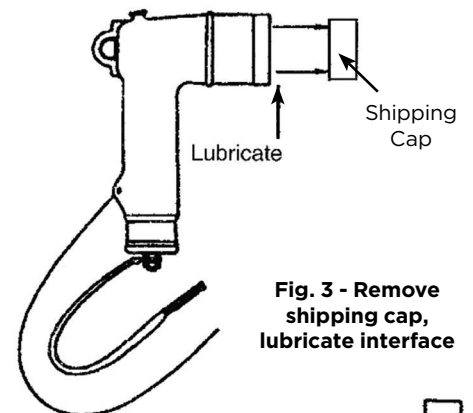

Fig. 3 - Remove shipping cap, lubricate interface
- Apply a thin, uniform coat of the supplied lubricant (DO NOT SUBSTITUTE as other lubricants may be harmful) to the operating interface of the arrester. See Fig. 3